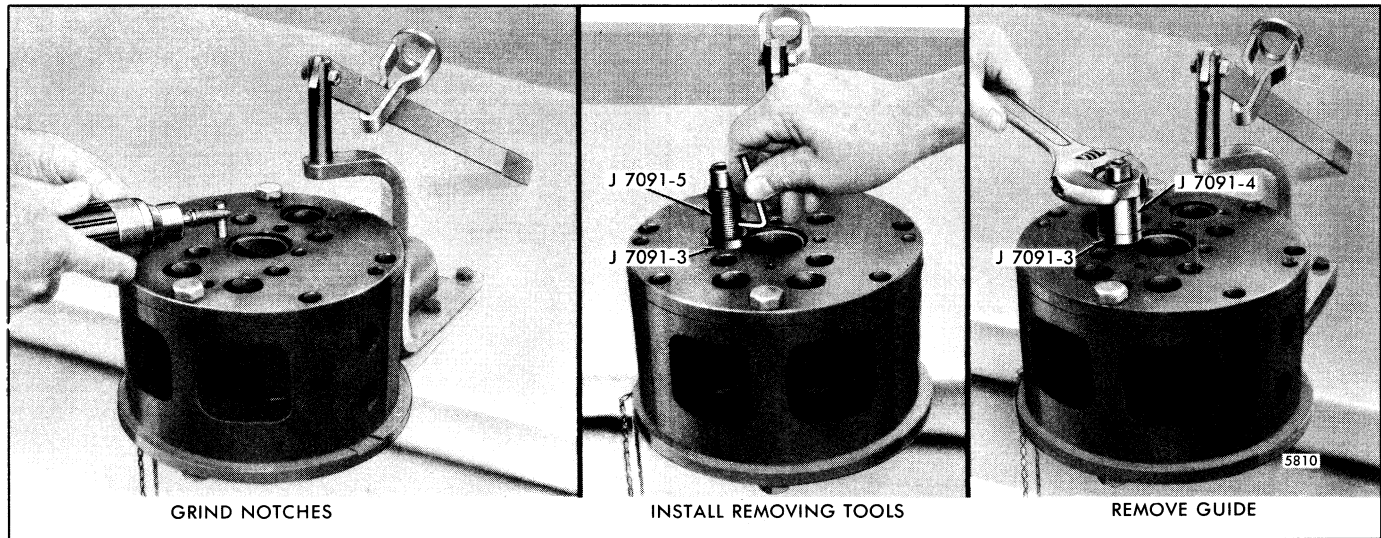

Fig. 7 - Removing Exhaust Valve Bridge Guide
1. Grind a notch 1/16" deep in the side of the bridge guide approximately 1 1/2" from the upper end of the bridge guide (Fig. 7).